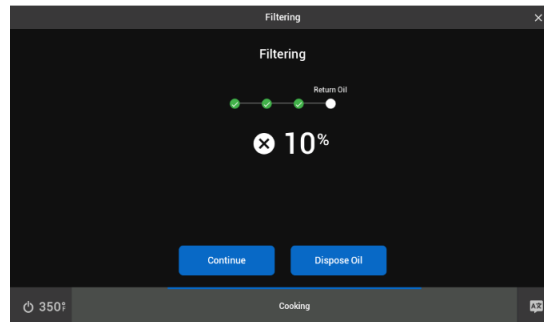

Figure 116 – Poor Oil Quality
- When operator answers  during the Filter process **with** Oil Quality Test enabled, the screen will transition to **Figure 116**